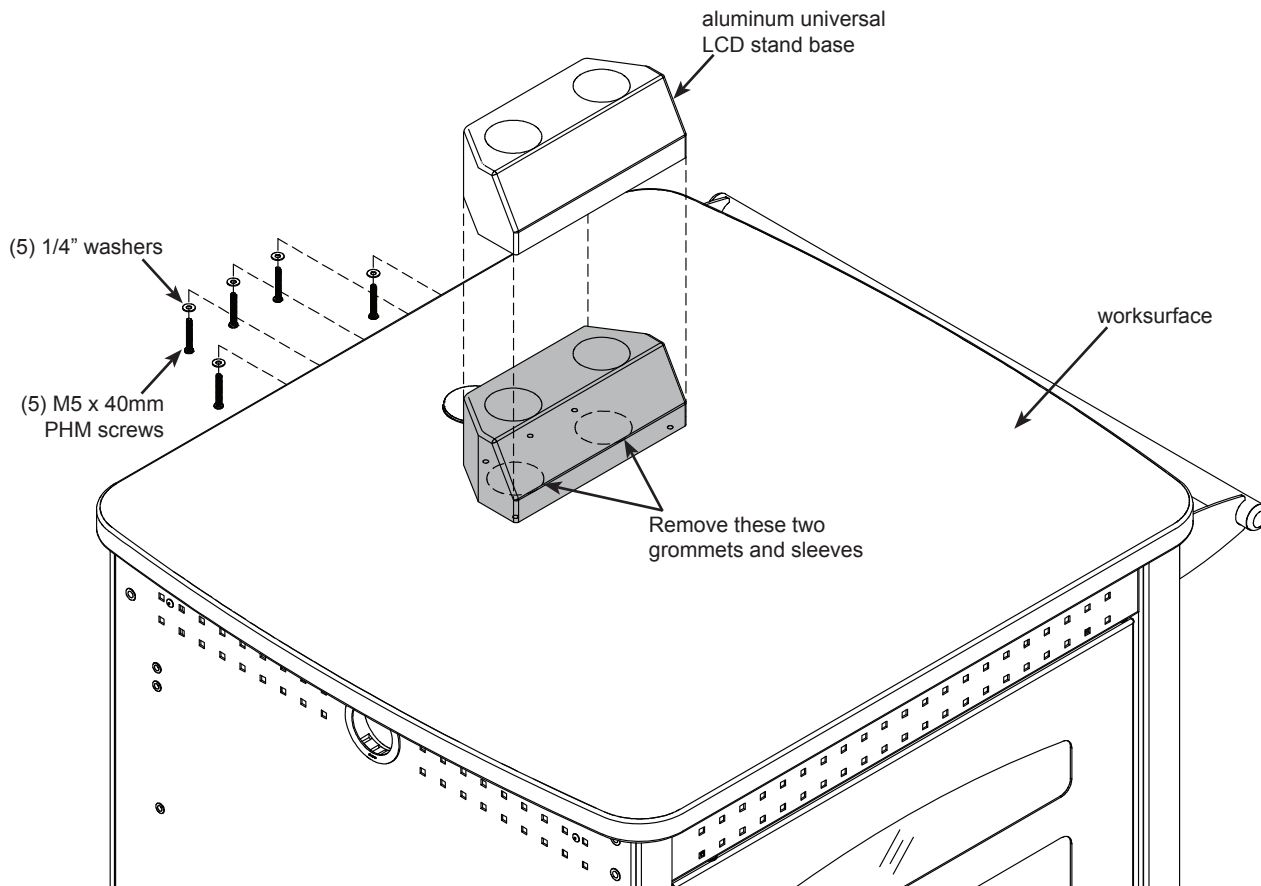

Figure 3
3. Using (5) M5 x 40mm PHM screws and 1/4" washers, attach the aluminum base included with the universal LCD stand to the worksurface as shown. **Figure 3**. Tighten all of the screws equally and securely.